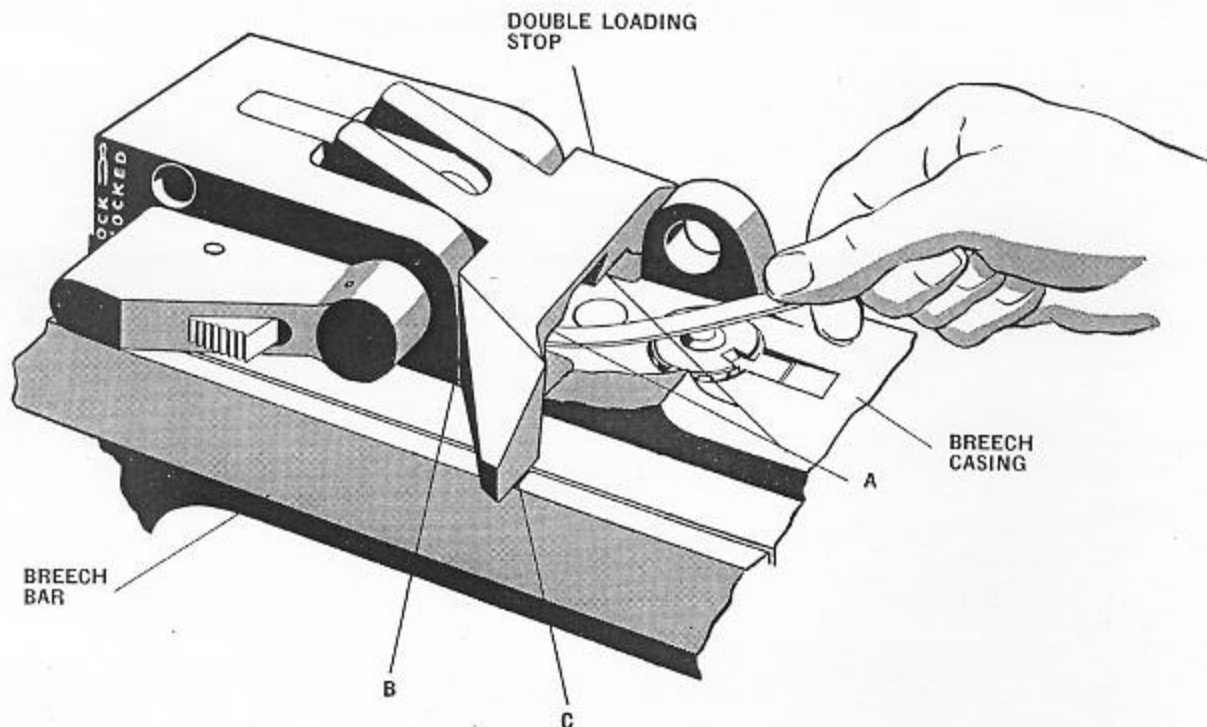

Figure 96—Checking Operation of Double Loading Stop (OE-1054)
When double loading stop (OE-1054) is pressed down at the rear so that the vertical faces contact breech casing (OE-1040) at (B), Figure 96, the clearance at (A) should be ".001 to ".005. This can be checked by inserting feeler stock between the stop and breech casing as shown.